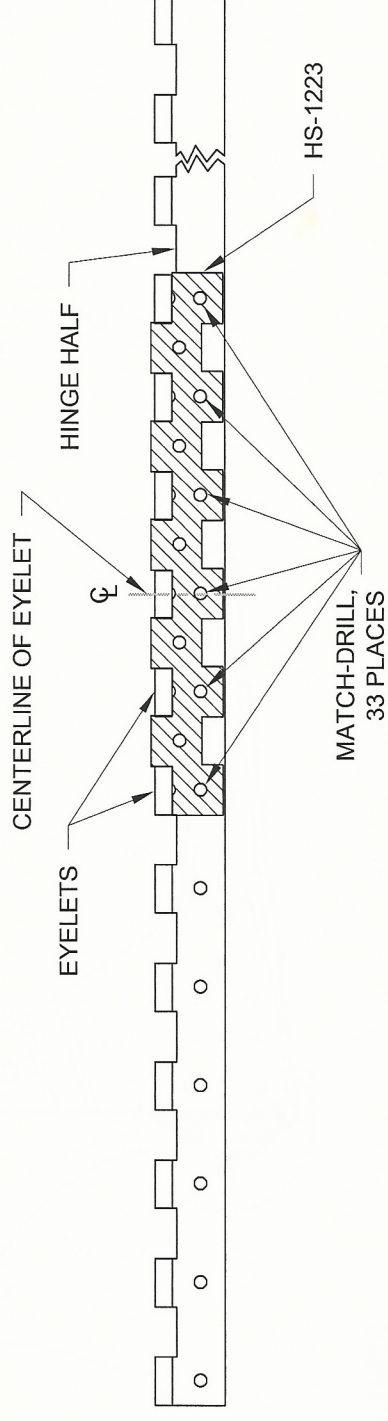

FIGURE 7:
Step 7: Match-Drill #30 the Hinge Half, using the HS-1223 Drill Guide per Figure 7. Refer to Figure 6, Detail B to remove the drill guide. Repeat Step 6 and Step 7 until the entire hinge half has been drilled to make the HS-1218B AST Hinge Half.